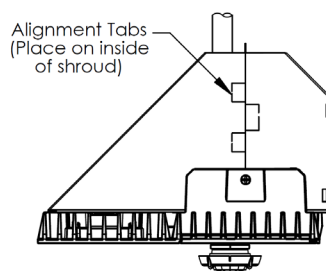

Fig. 9
1. With luminaire in installed position, place the 2 piece Bird Shroud on top of luminaire as shown in Fig. 9.
4. Secure Bird Shroud to luminaire heat sink by placing alignment tabs between heat sink fins and pushing Bird Shroud down so that it sits flat on the heat sink as shown in Fig. 9 & 10. If installing Bird Shroud for single light engine configuration, remove (2X) ¼-20 set screws and secure smaller Bird Shroud to heat sink using (2X) ¼-20 x 3/8 screws (provided) as shown in Fig. 11.